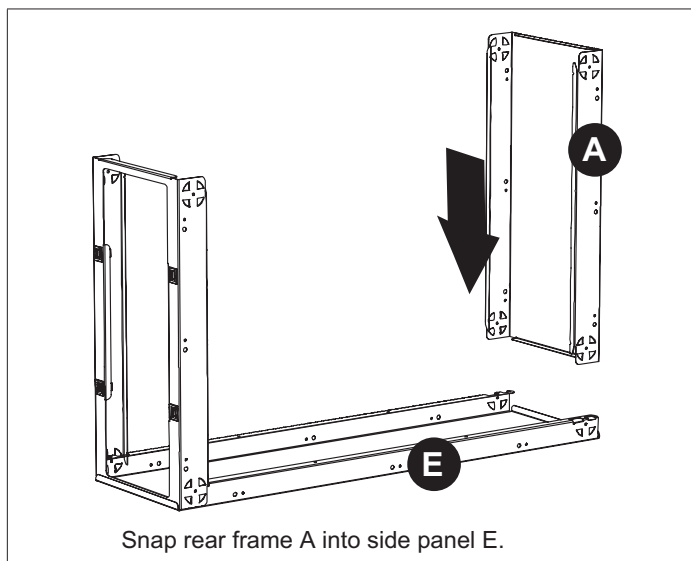

Figure 4. Assemble Rear Frame (A) to Side Panel (E)
3. Align and insert rear frame A into side panel E (see Figure 4 on page 3).